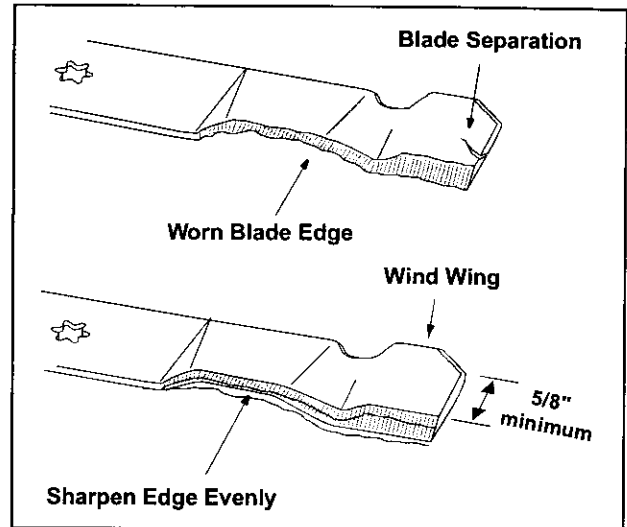

Figure 16
To properly sharpen the cutting blades, remove equal amounts of metal from both ends of the blades along the cutting edges, parallel to the trailing edge, at a 25° to 30° angle. See Figure 16.
**IMPORTANT:** if the cutting edge of the blade has already been sharpened to within 5/8" of the wind wing radius, or if any metal separation is present, replace the blades with new ones. See Figure 16.